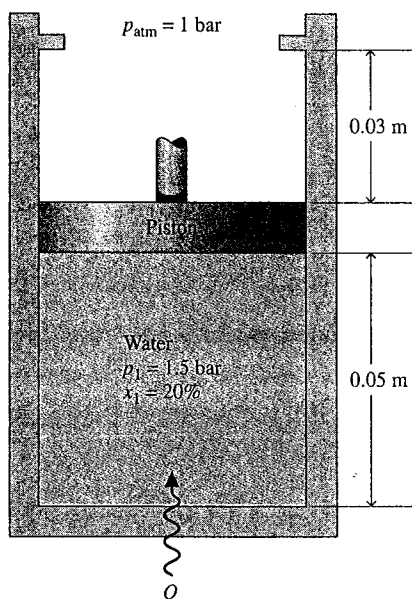

Fig. P3.70
- 3.70** Referring to Fig. P3.70, water contained in a piston-cylinder assembly, initially at 1.5 bar and a quality of 20% , is heated at constant pressure until the piston hits the stops. Heating then continues until the water is saturated vapor. Show the processes of the water in series on a sketch of the T - v diagram. For the overall process of the water, evaluate the work and heat transfer, each in kJ/kg. Kinetic and potential effects are negligible.